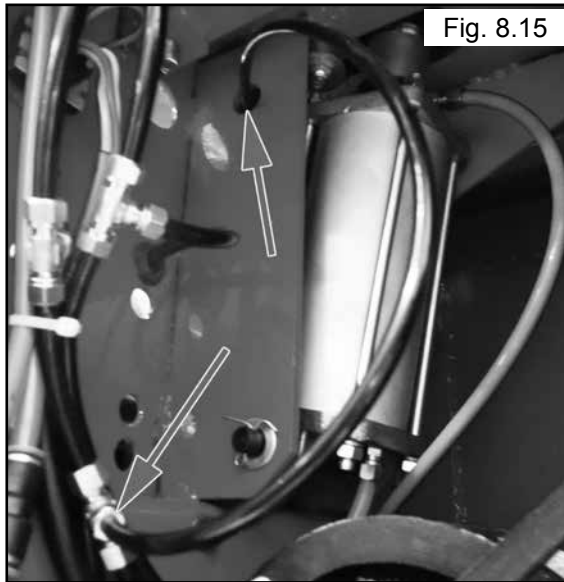

Fig. 8.15
16. Connect the Air Line from the Tilt Back Tower to the Tee Fitting located Inside the Rear of the Cabinet. (See Fig 8.15)